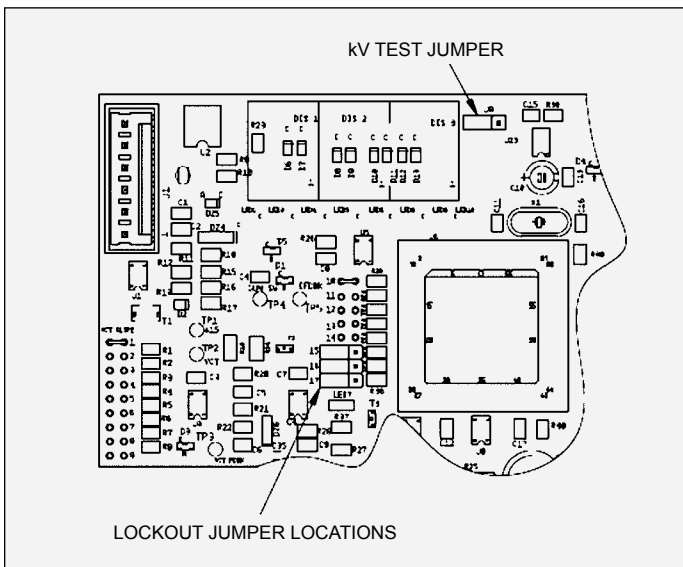

Figure 10: KV Test Jumper Location
To assist in testing and troubleshooting, a jumper (J8) has been added to the main PC board. By covering (shorting) both terminals of this jumper, the high voltage of the spray applicator can be activated. Thus, for testing and troubleshooting, high voltage output can be obtained without the need to turn on the gun on-off switch. **After testing, the jumper must be repositioned so that it covers only one terminal (open) or the high voltage will stay on all the time.** See Figure 10 for the location of KV test jumper J8. Ensure the jumper is installed on **ONLY ONE** post during power on to prevent a boot fault “bF”. *The terminals should only be shorted after the unit is completely powered on.*
6. Open the cabinet door and position jumper J8, shown in Figure 10, on the main PC Board so that it covers (shorts) both terminals. Note the position must be changed after boot or a boot fault "bF" will occur.